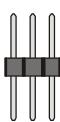

Figure 4-8
- (1) 3-pin male/male header (shown in Figure 4-8).
- (4) Jumper wires